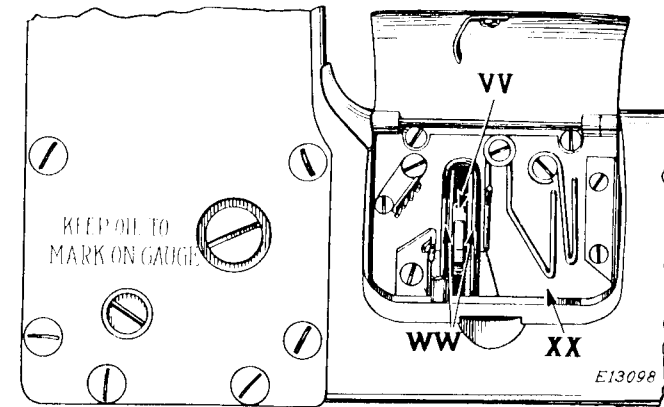
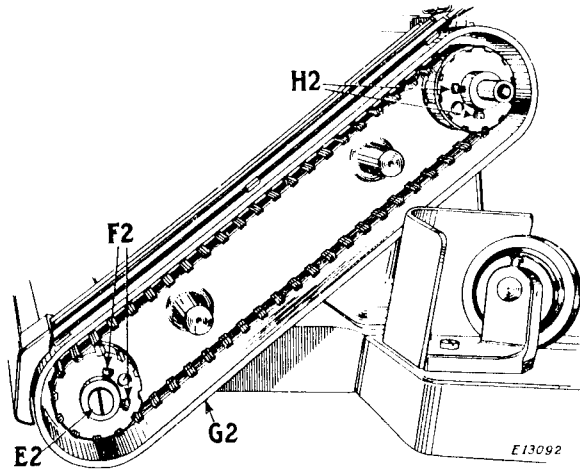

Fig. 19
Fig. 20
If the belt has been removed or disturbed, the lower shaft must be timed by loosening the two set screws and the cap screw (E-2 and F-2, Fig. 20) in the lower belt pulley, and turning the lower shaft until the loopers are correctly timed with the needles. Tighten the cap screw (E-2) first, then the two set screws.
The straight part of the take-up (VV, Fig. 19) should touch the thread between the take-up stripper wires (WW) just as the loopers
If the upper pulley is removed or disturbed, it should be reset as follows when replacing the belt. Turn one of the set screws (H-2, Fig. 20) lightly into the groove in the arm shaft, then place the belt on the pulleys and hang the belt guard cover over the shaft. Place the balance wheel on the shaft and turn one of the set screws in the belt groove lightly into the groove in the shaft. Insert and tighten the arm shaft oil reservoir to draw the pulley against the ball bearing. Tighten the two set screws (H-2) in the upper pulley and also those in the belt groove of the balance wheel. The belt guard cover may be swung out of the way without removing the balance wheel, in order to reach the lower pulley for timing the lower shaft.
Remove the arm shaft connection belt, the belt pulleys and the belt guard (G-2, Fig. 20). Remove the looper thread guide at the front of the bed, and loosen the set screw underneath it which holds the right ball bearing case. Remove the take-up stripper plate (XX, Fig. 19) and loosen the set screw in the take-up (VV, Fig. 19). Loosen the two set screws in the intermediate